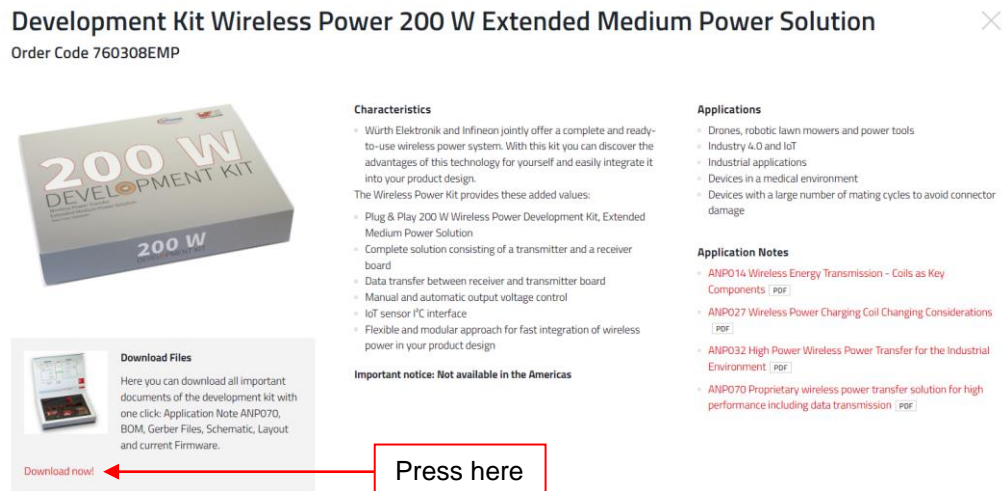

Figure 4: Screenshot showing download options for the 200W kit from Würth Elektronik website.
- Download the latest software for the 760308EMP 200W development kit from Würth Elektronik website using the following link Development Kit Wireless Power 200 W Software as shown in Figure 4 below. The files should be saved under a folder locally. They are downloaded as a zip file and therefore must be extracted before importing to Dave IDE.